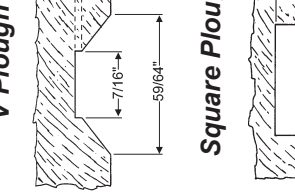

Figure 2
7. Circle One: **V plough** or **Square plough** only applies to 86F, 86H, 86G, 86I. - **See Figure 2.**